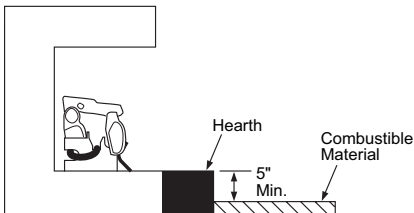

Figure 8 - Minimum Fireplace Clearances Above Combustible Flooring
- If combustible materials are less than 14" to the fireplace, you must install appliance at least 5" above the combustible flooring (see Figure 8).